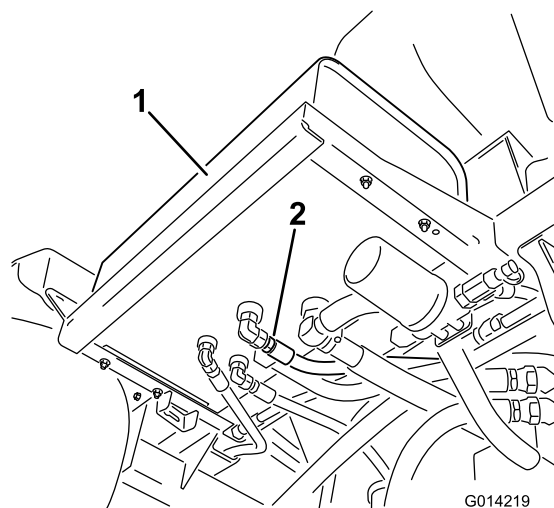

Figure 111
2. Clean the area around a hydraulic-hose fitting on the bottom of the hydraulic-fluid tank (Figure 111).
4. Remove the hose fitting from the tank, allowing the fluid to drain into the pan (Figure 111).